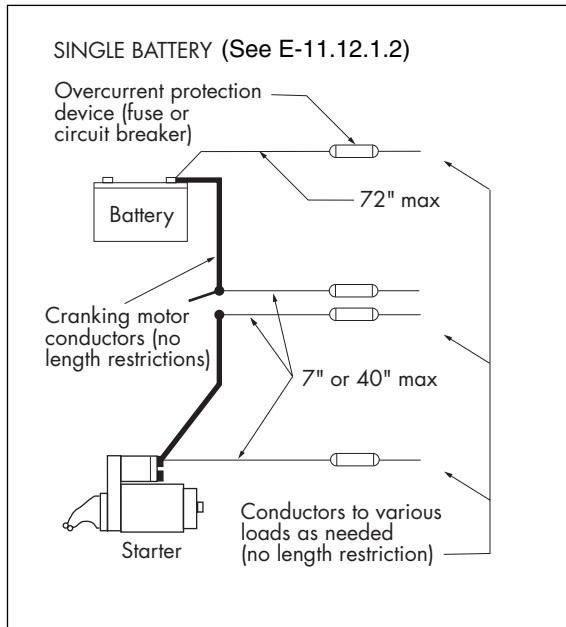

Fig. 4-17. Figure 15 from section E-11 on battery supply circuits, showing the location of overcurrent protection. (© ABYC)
- ▶ One additional exception that applies to many newer powerboats is that no fuse or circuit breaker is required on self-limiting alternators. This applies to most alternators with internal voltage regulators as long as the connection is not at the battery, the conductor is in a sheath, and the wire is no more than 40 inches long. The protection rating must be based on the maximum rated output of the alternator. Figures 4-17, 4-18, and 4-19 on page 58 illustrate the various allowable protection locations and the exceptions.